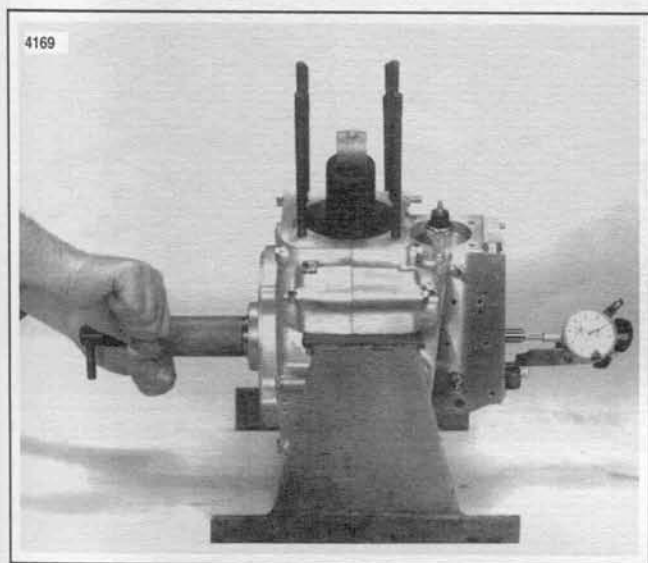

Figure 3-63. Check Flywheel End Play
- See Figure 3-63. After engine has been removed from chassis, securely fasten it to a stand and workbench.
- Check amount of main bearing end play by rotating and pushing on the sprocket shaft while reading the dial indicator. Rotate and pull on the sprocket shaft and note the difference on the indicator readings. If difference (end play) is not 0.001-0.005 in. (0.025-0.13 mm), the bearing inner spacer (10, Figure 3-63) must be replaced. Choose spacer from the chart. A thinner spacer will result in less end play.
Bearing Inner Spacers (Item 10, Figure 3-63)